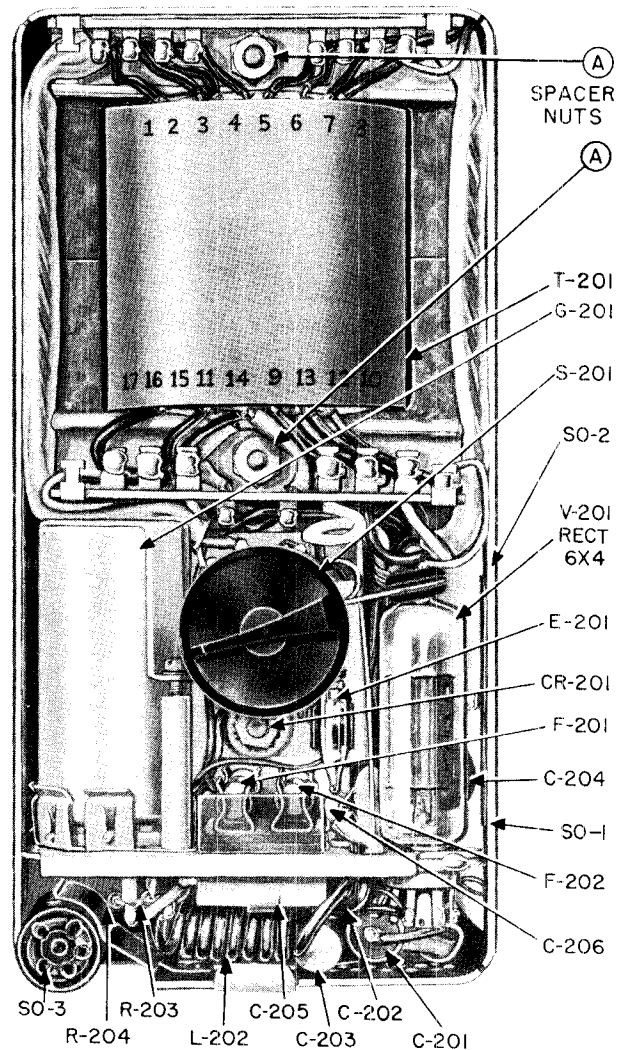

Figure 22. Power Supply RP-6, parts location.
### 33. HOW TO REPLACE POWER TRANSFORMER (See Figure 22)
- b. Remove the hex spacer nuts (A, Figure 22).